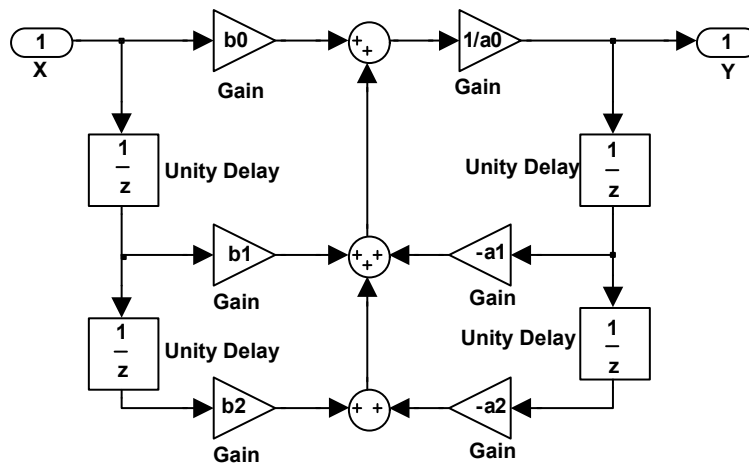

Figure 7: Discrete time system.
- (a) Determine the transfer function $H(z) = \frac{Y(z)}{X(z)}$ for the discrete-time system presented in Fig. 7